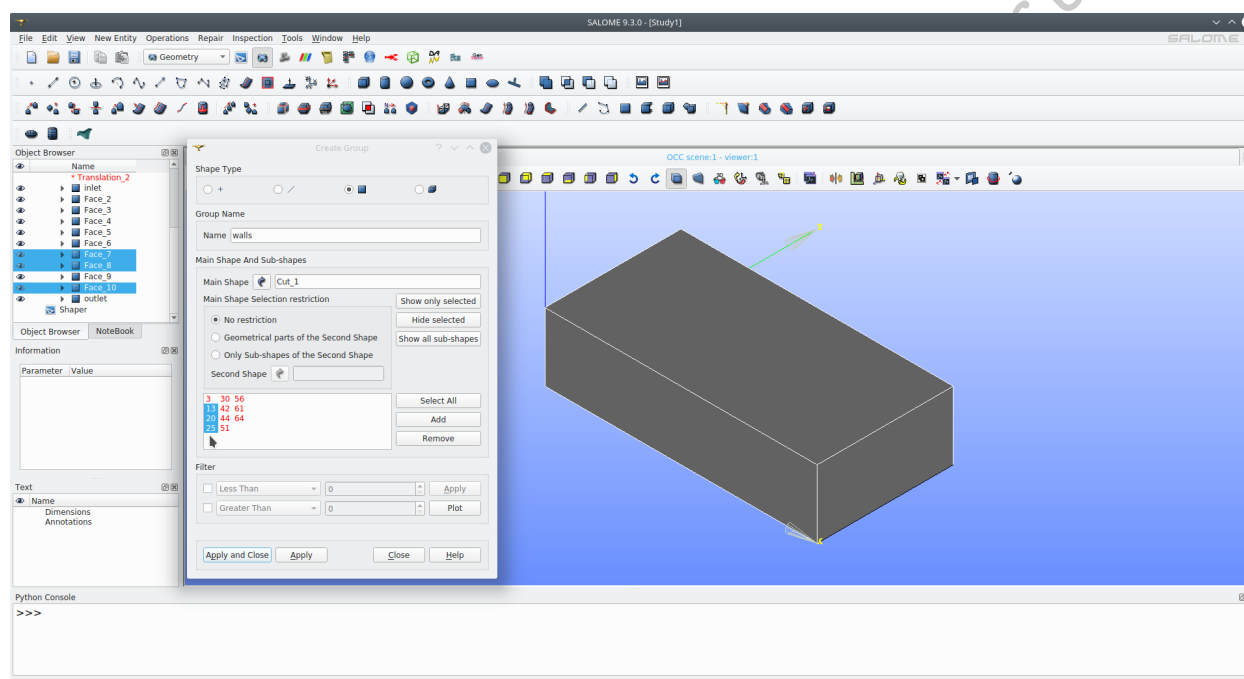

Figure 7: Creating a group of faces in Salome representing **walls** for OpenFOAM simulation
- ...Select Main shape as Cut_1 by clicking in the pipeline > Select All > Numbers will appear in the dialogue box as shown in figure 7. > 13, 20, 25 are the needed numbers > Select the rest and click on Remove > Apply and close
- ...Select Main shape as Cut_1 by clicking in the pipeline > Select All > Numbers will appear in the dialogue box as shown in figure 7. > 44, 51, 56, 61, 64 are the needed numbers > Select the rest and click on Remove > Apply and close